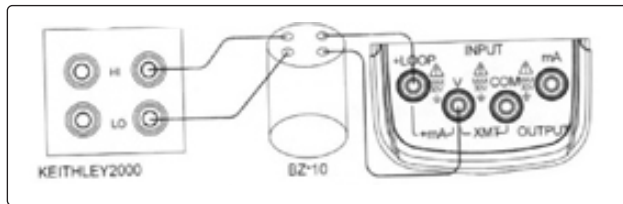

Figure 10-1
- 3) Connect to the Instrument as shown in Figure 10-1;
- 6) Press the key (100%/START), and the LCD displays 'SAVE' denoting that the calibrated point has been stored;